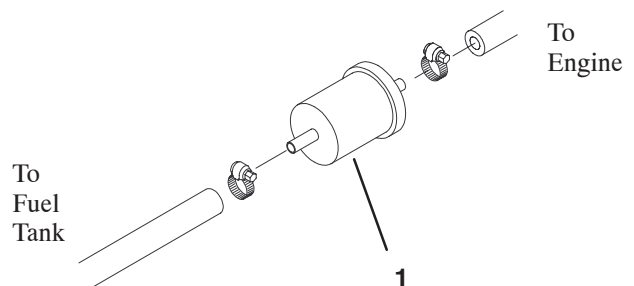

Figure 39
Replace the fuel pre filter (Fig. 39), located between fuel tank and fuel pump after every 400 operating hours or yearly, whichever occurs first.
1. Clamp both fuel lines that connect to the fuel filter so fuel cannot drain when lines are removed (Fig. 39).